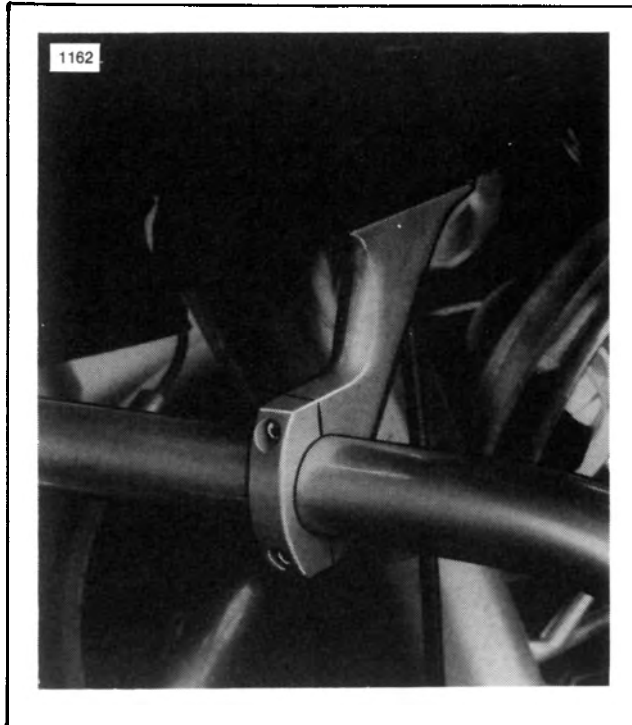

Figure 2-143. Fairing Clamps — FLT
3. See Figure 2-143. Remove the two screws that secure each clamp to the engine guard.
2. See Figure 2-143. Secure the clamps to the highway bar using the original screws.